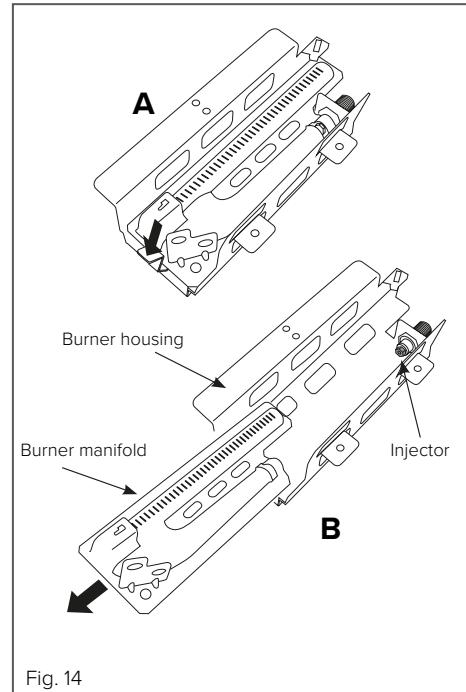

Fig. 14
3. Press down on the clip shown in part A of Fig. 14 and lift and slide the burner manifold out of its housing as per B in Fig 14. Take care not to damage the enamel surround or the burner.
4. Remove the injector (location shown in part B of Fig. 14) and replace with the correct injector as per the gas type and the oven burner table on page 35.